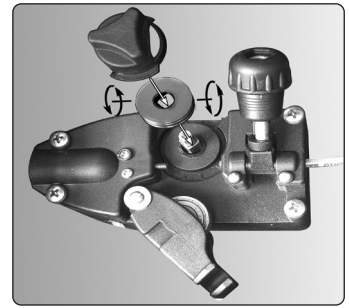

fig.10
7.3.2. Pull the roller off the drive spindle, flip it over and put it back on the drive spindle. (See fig.10) The groove size you require should now be visible on the face of the roller. Push the roller retainer back onto the drive spindle with the opening facing right. Ensure that the flanges at the base of the retainer, seat fully into the circular recess in the main moulding and then rotate the retainer through 90° to lock it in place.